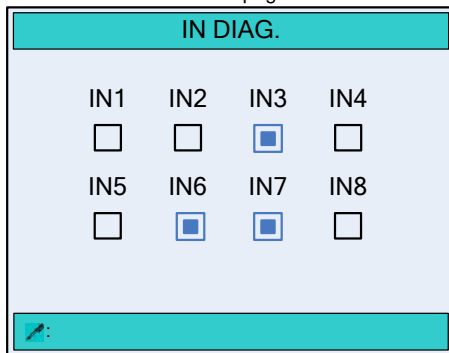

Figure 4-2 The **IN DIAG.** page
On the **DIAGNOSE** page, move the cursor to parameter **1.IN DIAG.** (or press the number key 1), and press  to enter the **IN DIAG.** page, as shown in Figure 4-2.